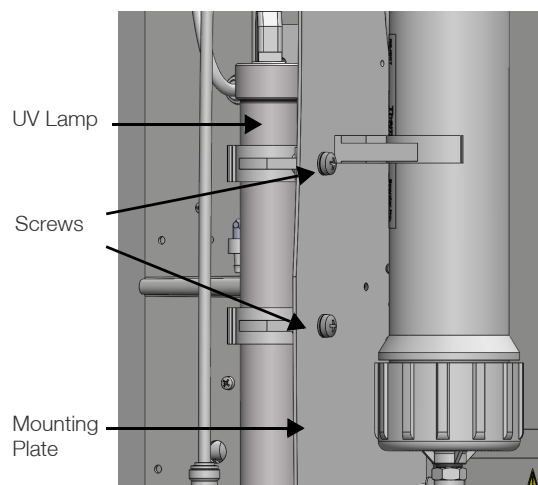

Figure 46. Ultrafilter installation plate
- c. Use the Phillips screwdriver to unscrew the screws from the bracket for the UV lamp and pull the UV assembly out toward the front (refer to **Figure 46**).